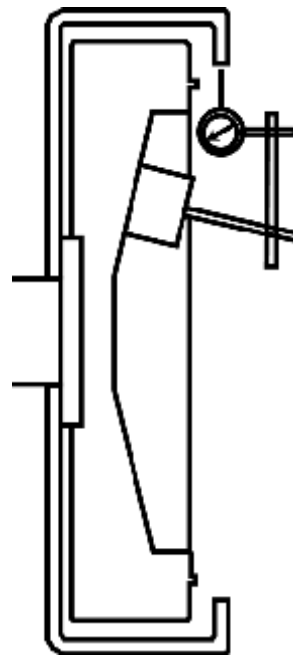

FIGURE 2
3.1.2 Check flywheel housing bore runout. (See Figure 2)